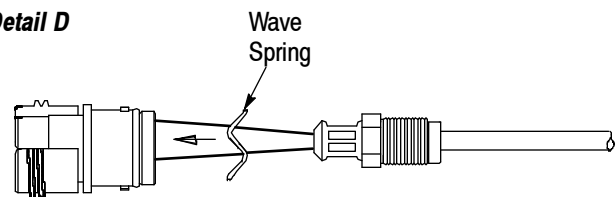

Figure 13
6. Using an applicator swab, apply a *thin film* of the grease around the inside of the O-ring inside the housing and around the inside of the front seal on the inside of the housing. Refer to Figure 13, Detail A. Remove any excess grease.
7. Align the internal key (small bar inside) of the housing with the keyway (slot along the side) of the EB insert, and slide the EB insert into the housing. See Figure 13, Detail B.
8. Using the 3-mm hex wrench, push the EB insert into the housing until it bottoms (when bottomed, the front edge of the EB insert should be flush with the front seal). To avoid damage to the fiber, DO NOT push the fiber or cable to install the EB insert. See Figure 13, Detail C.
9. Slide the wave spring over the crimp sleeve and into the housing and against the EB insert. See Figure 13, Detail D.